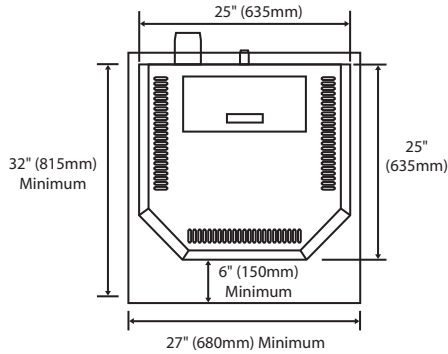

FIGURE 1. **KOZI** BayWin noncombustible floor protector (same dimensions apply to Model 100 and KSH Series).
6. This heater requires a floor protector beneath the heater and extending a minimum of 6 inches (150 mm) in the front and beyond each side of the fuel loading and ash removal openings of the heater. This is to catch any spillage, which may occur during opening and closing of the doors. See Figure 1 for more information.